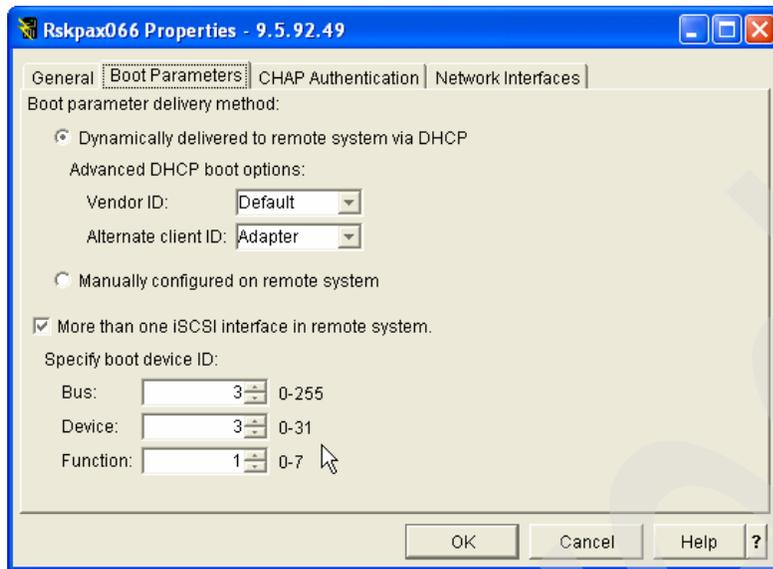

Figure 9-61 Specifying the boot device ID (boot port) in the RMTSYS configuration object
5. Select the **Boot Parameters** tab. You see a window similar to the one displayed in Figure 9-61 on page 434.
Note: Specifying the boot device ID information in the RMTSYS configuration object is in fact optional, because these values are overridden by the values set in the CTRL-Q utility. However, a future enhancement to System i Integrated Server Support will allow you to specify values for the boot device ID through the panel shown in Figure 9-61 and override the CTRL-Q settings. You will therefore not need to run the Ctrl-Q utility to specify the boot device ID.